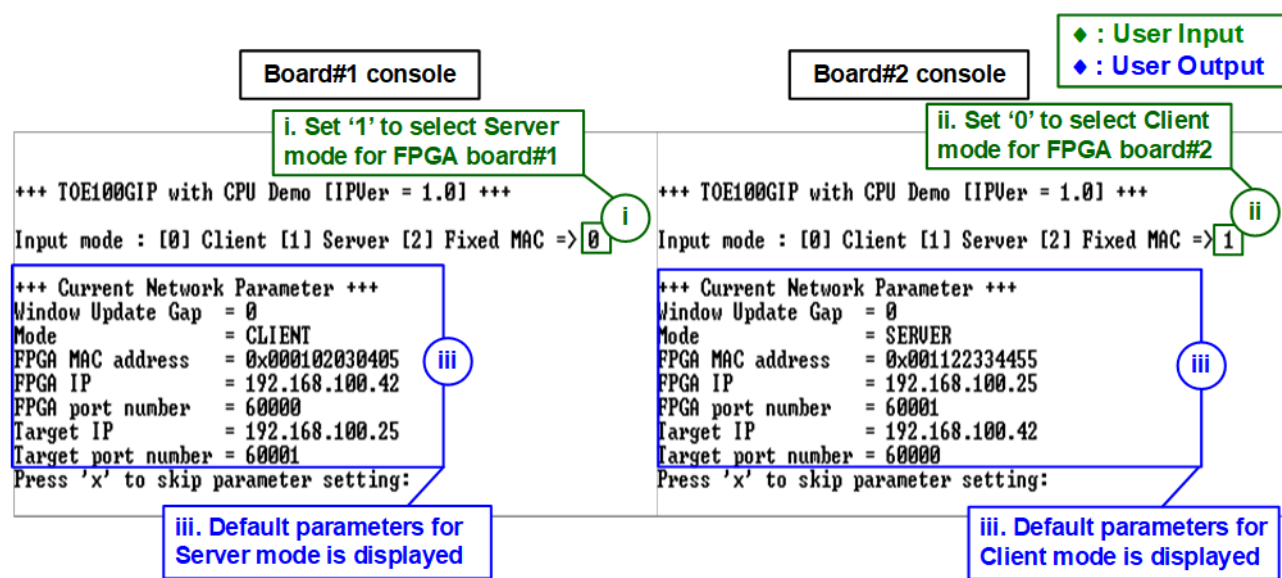

Figure 3-2 Input mode
- iii) Default parameters for Server or Client are displayed on the console, as shown in Figure 3-2.